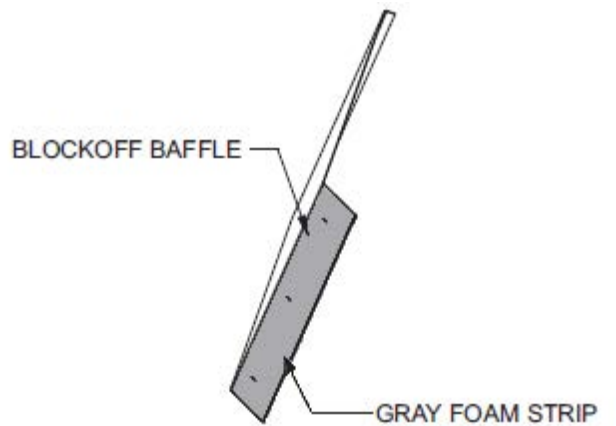

Fig. 25 — Adding Foam Strip to Block-Off Baffle
8. Attach gray foam strip (provided) to block-off baffle on outer face of flange. See Fig. 25 for application of gray foam strip to block-off.